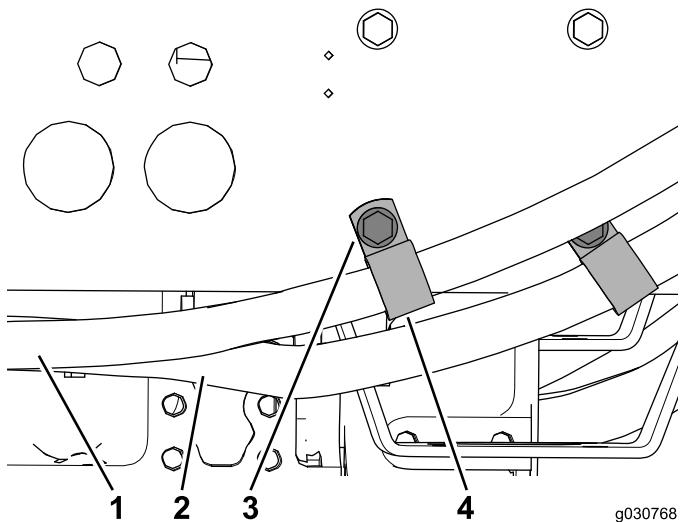

Figure 46
5. Install 1 R-clamp around each air-conditioning hose and use the 2 existing bolts to secure them to the machine frame (Figure 46).